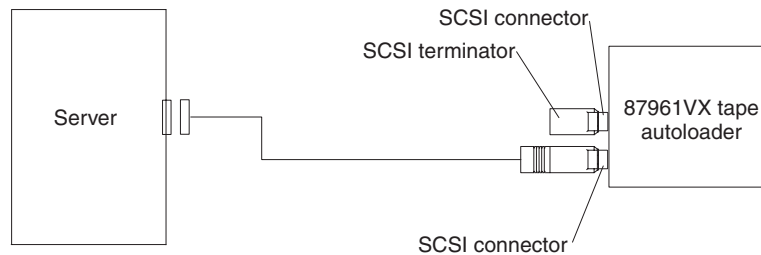

Figure 12. Example of attaching one SCSI device to the system unit
2. On the rear of the 87691VX Tape Autoloader (see Figure 12 on page 18), attach the device connector end of the SCSI bus cable to one of the SCSI connectors. Make sure that the connector is fully engaged.
- If the 87691VX Tape Autoloader is the only device that is attached to the system, connect the cable to the host system (see Figure 12).
- If the 87691VX Tape Autoloader (see Figure 12) is the only SCSI device that is attached to the host system, install the terminator on one of the dual connectors.